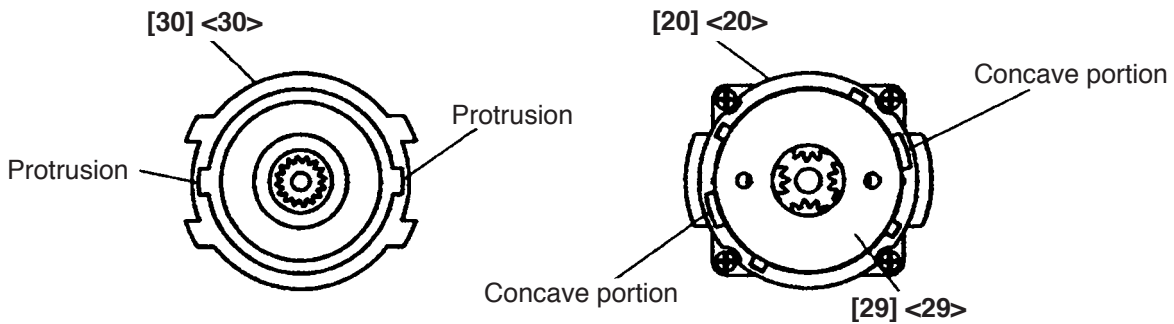

Fig. 14
(5) Reassembly of the drive unit
- (a) Fit the protrusion of the Motor Spacer [30] <30> in the concave portion of the Rear Case [20] <20> engaging the pinion of the Armature and Pinion Set [31] <31> with Planet Gear (A) Set (4 pcs.) [27] <27>. Turn it fully clockwise viewing from the rear of the Armature and Pinion Set [31] <31> (see Fig. 14).